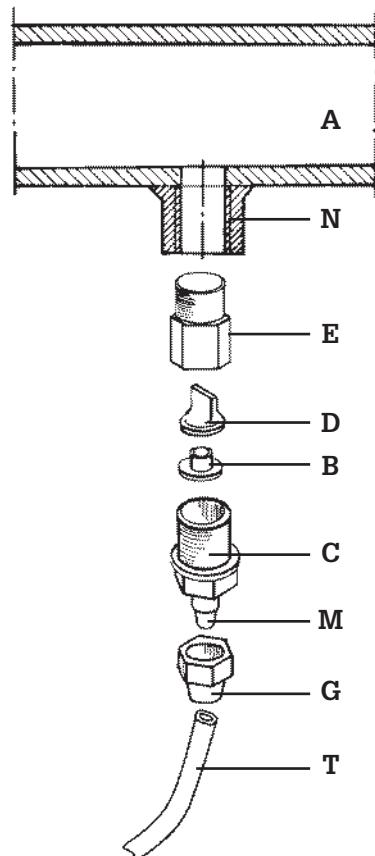

Fig. 8
- f. - Select the most appropriate injection point on a pipe of the plant to be treated and there fit a 3/8" female steel gas thread connector (similar to BSPm). This connector is not supplied with the pump. Screw the injection valve to the gas connector, inserting a gasket as shown in Fig. 8. Then connect the discharge hose to the conical connector on the injection valve and fix it with the supplied tube nut G. The injection valve also acts as no return valve.
3.1 - INJECTION VALVE INSTALLATION DIAGRAM Fig. 8